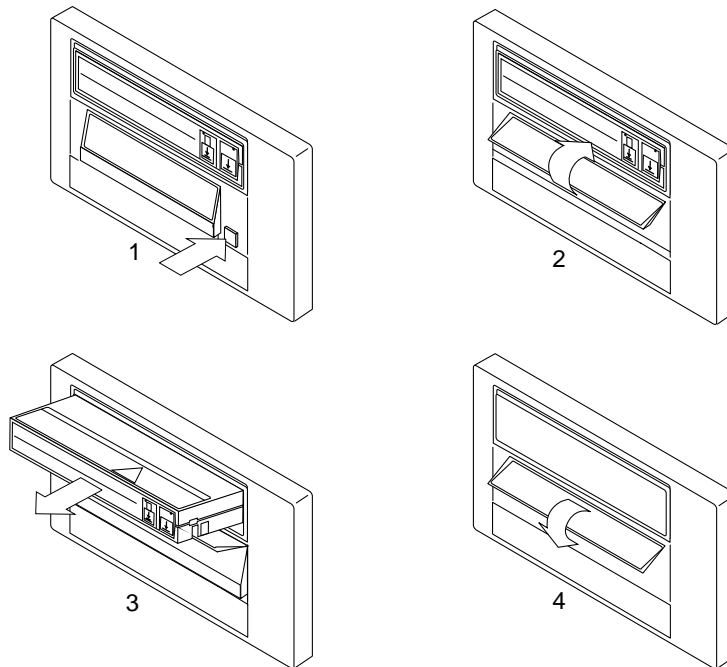

Figure 2-4 Unloading a Tape Cartridge
1. **Press the Unload button (Figure 2-4).**